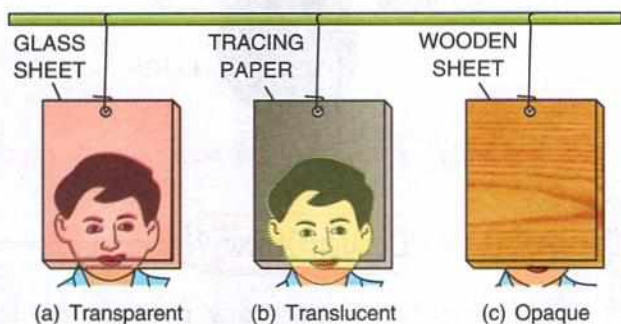

Fig. 5.4 Different kinds of substances
1. Transparent Substance : A substance is said to be transparent if light passes through it easily. The object can be distinctly seen across a transparent substance [Fig. 5.4 (a)]. The examples of transparent substances are glass, air, water, etc.
2. Translucent substance : A substance is said to be translucent if it allows only a part of light to pass through it. The details of an object cannot be distinctly seen through a translucent substance, but only a faint impression is seen [Fig. 5.4 (b)]. Ground glass, tracing paper, waxed paper, greased paper, etc. are some examples of translucent substances.
3. Opaque substance : A substance is said to be opaque if it does not allow any light to pass through it. We cannot see the objects through an opaque substance [Fig. 5.4 (c)]. Wooden screen, metallic sheets, black paper, etc. are examples of opaque substances.